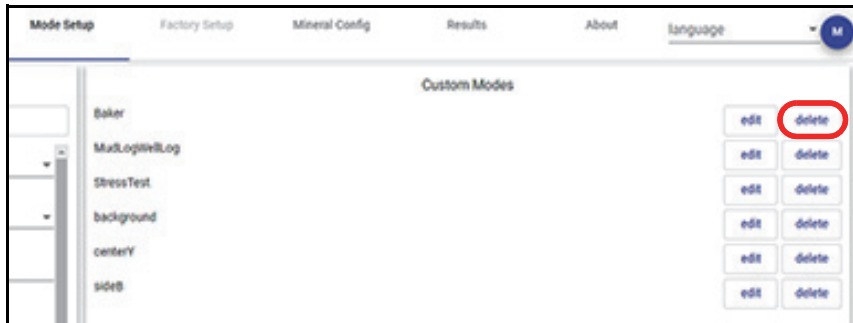

Figure 5-16 Delete buttons
- ◆ Click a **Delete** button (see Figure 5-16 on page 81).